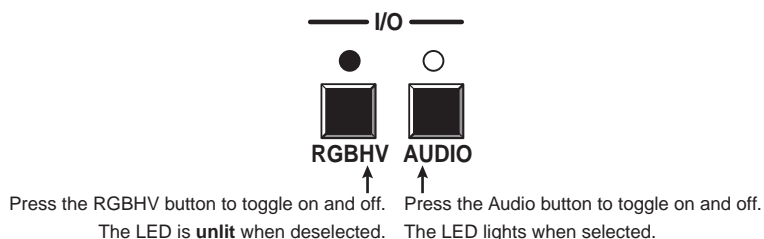

Figure 3-17 — Select audio only
2. To select audio only for the tie, if necessary, press and release the RGBHV button and/or Audio button (figure 3-17).